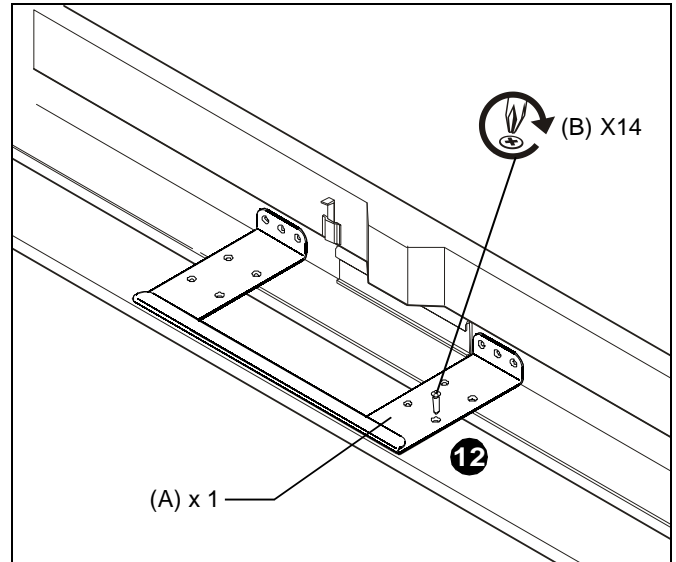

Figure 8
12. Secure retro bracket (A) to decorative frame using 14 Phillips flat head screws (B). (See Figure 8)